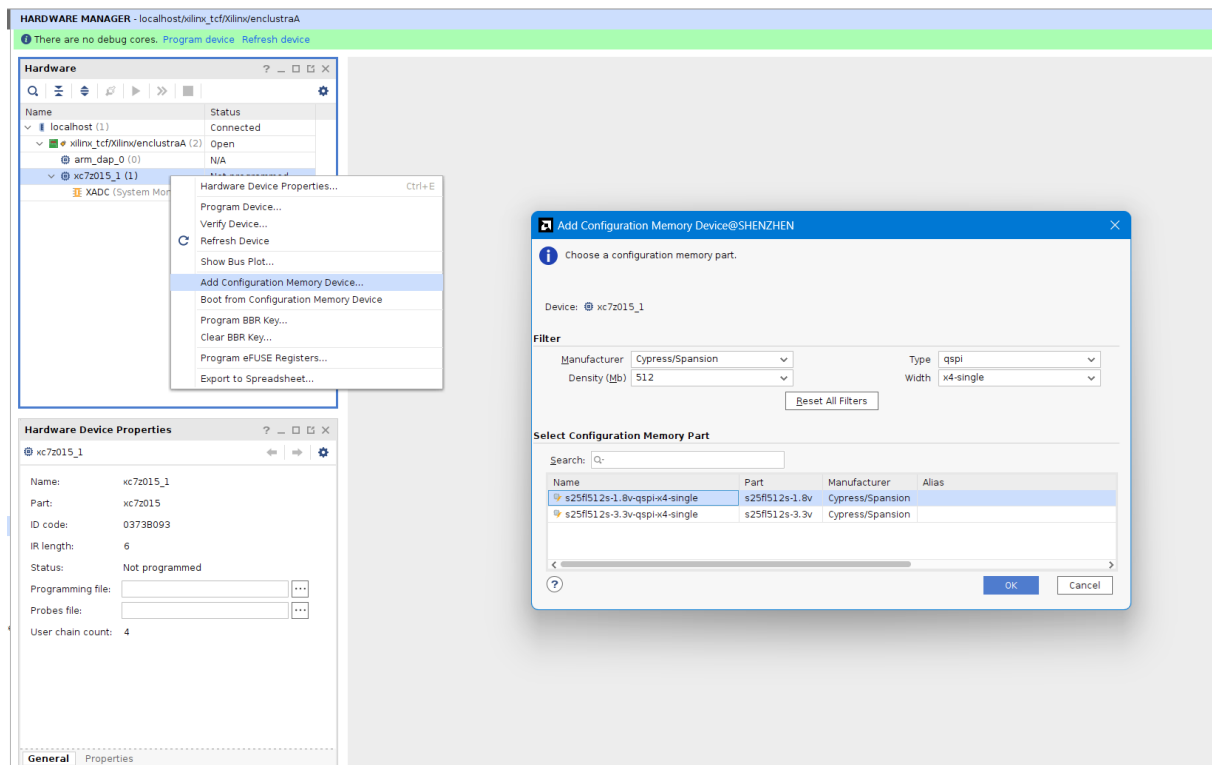

Figure 5: Example Dialog Vivado Configuration Memory (QSPI)
3. Select **Open target > Auto Connect**. The hardware manager should be able to connect to the device as shown in Figure 5.
4. Right-click the SoC and select **Add Configuration Memory Device....** A dialog as the one shown in Figure 5 appears.